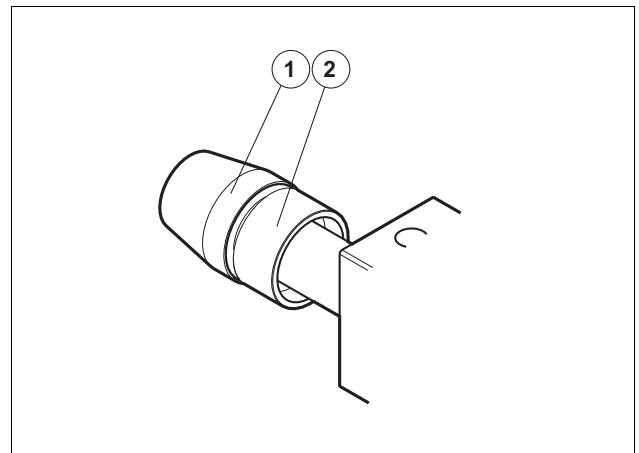

Fig. 37 Replacing Cylinder Seals
5. Connect the Assembly Tool to the piston. *See Fig. 37.*